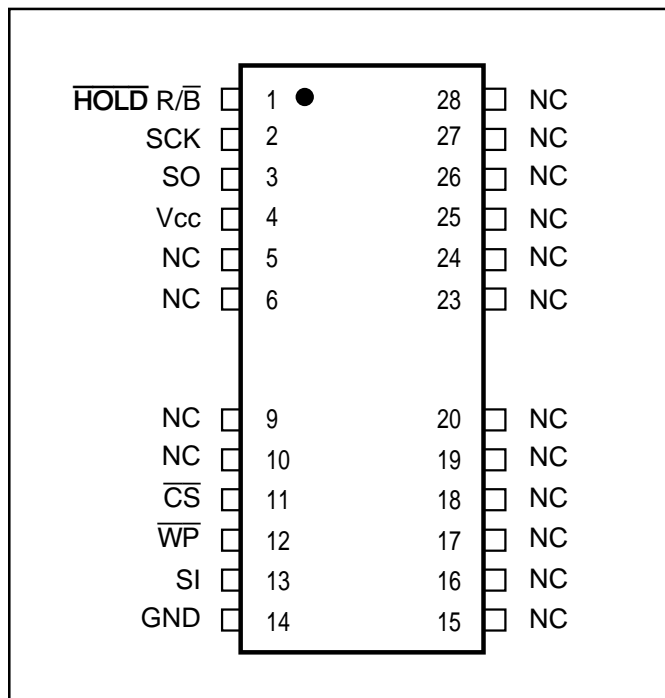

Figure 3. NX25F080A Pin Assignments
The NX25F080A is available in a 24/28-pin TSOP (Type II) surface mount package. See Figure 3 and Table 1 for pin assignments. All interface and supply pins are on one side of the package. The “No Connect” (NC) pins are not connected to the device, allowing the pads and the area around them to be used for routing PCB system traces. The 50 mil pin-to-pin spacing of the package eases assembly and pre-programming compared to other Flash devices that use 25 mil spacing. The NX25F080A is also available in a cost-effective and space-efficient removable Serial Flash Module package (see NX25Mxxx data sheet).